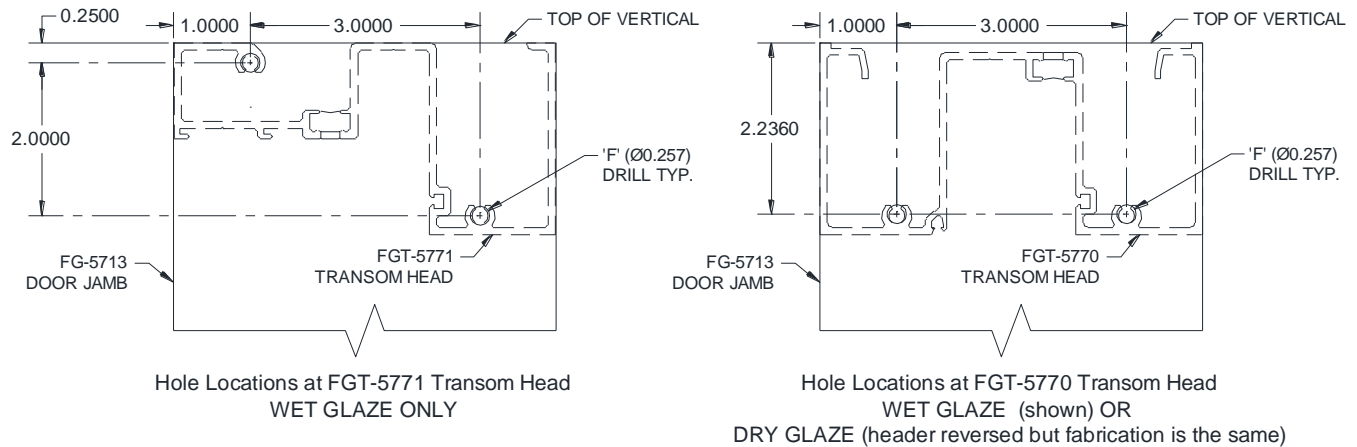

Figure 9: Fabrication for ArmorDefend™ Plus Framing at Transom Head
- 3.1.2 Prep Door Jamb for the Transom Head. This should be made using either **DJ-5750** drill fixture for the FG-5750T framing. Reference *Figure 9* for visual detail. **NOTE:** Some holes may be factory prepped; inspect Verticals and fabricate for any additional holes as required.